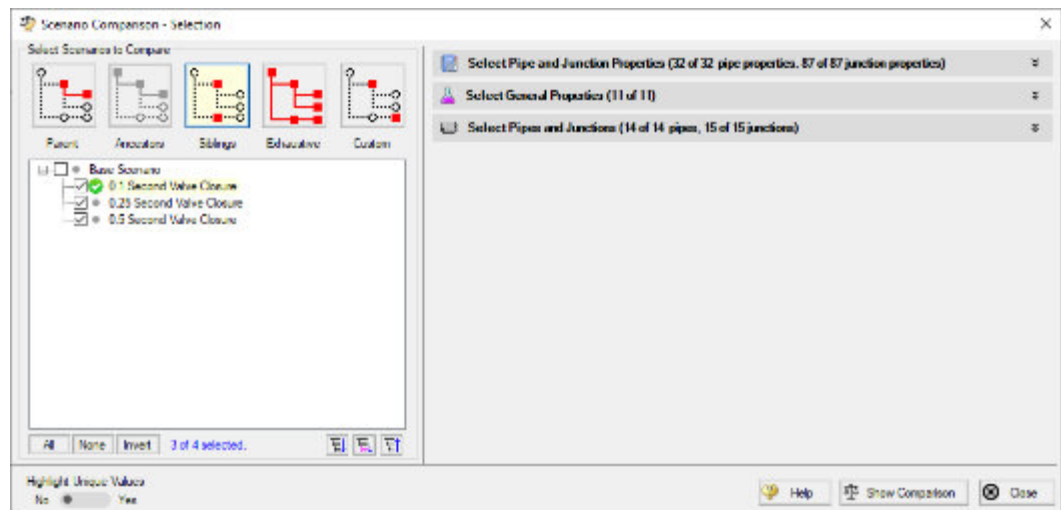

Figure 5.8 Scenario Comparison Tool - Selection window
- In the Scenario Comparison - Selection window (Figure 5.8), select the Siblings option.